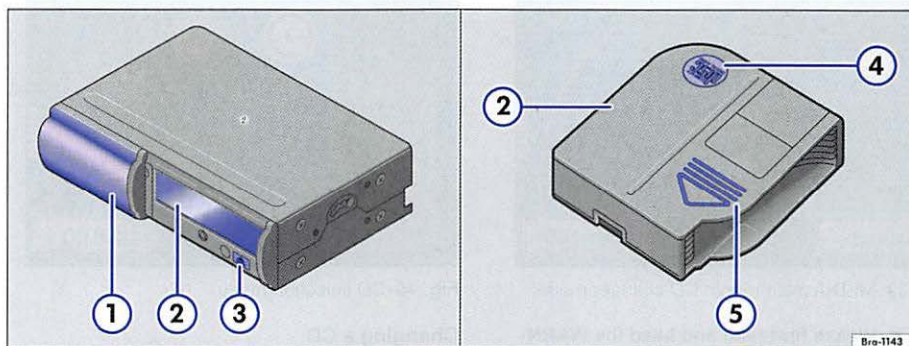

Fig. 37 CD changer and CD magazine.
- Slide the magazine cover $\Rightarrow$ fig. 37 ① completely open in order to expose the magazine.
- Press the button ③ for magazine removal and remove the magazine ②.
- In order to insert the magazine ② again, insert and push the magazine as far as it will go with the label "disc" ④ facing upwards and in the direction of the arrows ⑤.
- Close the magazine cover ① completely in order to prevent dust and dirt from entering.